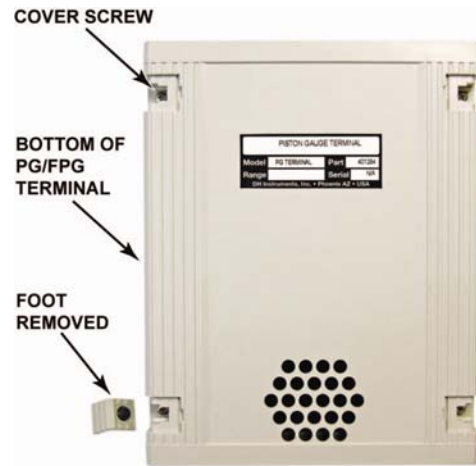
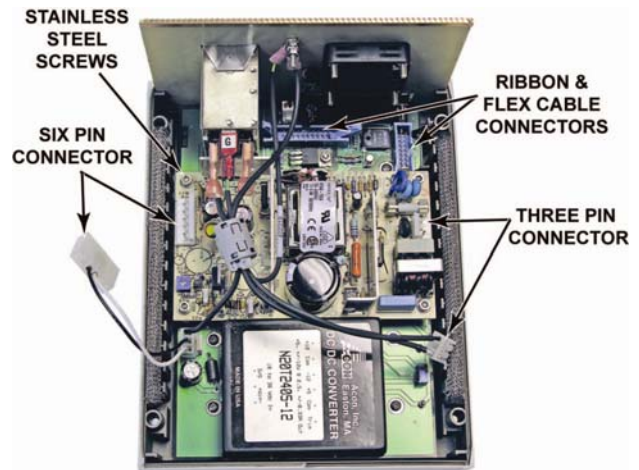

Figure 1: PG/FPG Terminal bottom with feet removed.
Figure 2: PG/FPG Terminal power supply board.
- ❶ Disconnect power cord.
- ❷ Turn the PG/FPG Terminal on it's back so all four (4) rubber feet show: Remove the feet using a small screwdriver to pop them out. This will expose four cover screws (see Figure 1).
- ❸ Remove all four cover screws. Rotate PG or FPG terminal so it is facing up.
- ❹ Remove enclosure cover from unit. Just lift off the cover part way. The cover will not completely remove due to cables.
- ❺ Disconnect cables prior to completely removing cover. While holding the cover up, unplug the ribbon cable to the display and the flex cable for the membrane switch. The power supply board will be exposed (see Figure 2).
- ❻ Detach three pin and six pin cables from power supply board. The power supply is mounted in four (4) places with a stainless steel screw, a lock washer and a flat washer (see Figure 2).
- ❼ Remove the power supply board. Unscrew all four of the stainless steel screws, lock washers, and flat washers and retain them for use in remounting the power supply. The screws can be removed using a 2.5 mm Allen wrench. The power supply can now be removed (see Figures 2 and 3).
- ❽ Remove old EPROM Ver 1.01a. The old EPROM is located at U5 on the PG/FPG Terminal main board.